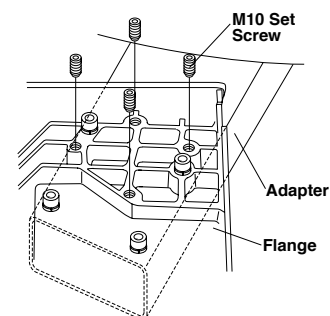

Fig.6-3 Setting Level Adjuster Screws
- C. After mounting the unit onto the chair fit the 4 x M10 set screws (Level adjuster screws) into the flange. Use these set screws (M10) to adjust the level of the unit. (Fig. 6-3)